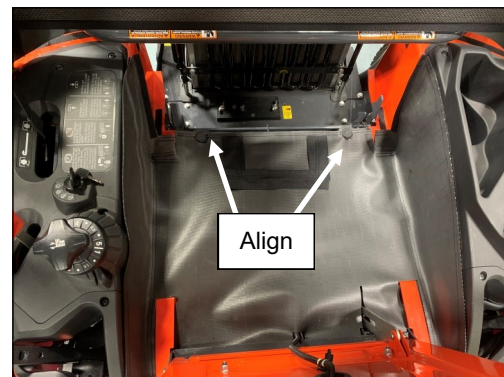

Fig. 10.1 (Install Underseat Filler)
10.1 See fig. 10.1. Raise the seat and install the rubber underseat filler panel as shown. Start by aligning the panel over the round rubber bumpers that the seat rests on and work around the perimeter to attach to the pre-installed Velcro.